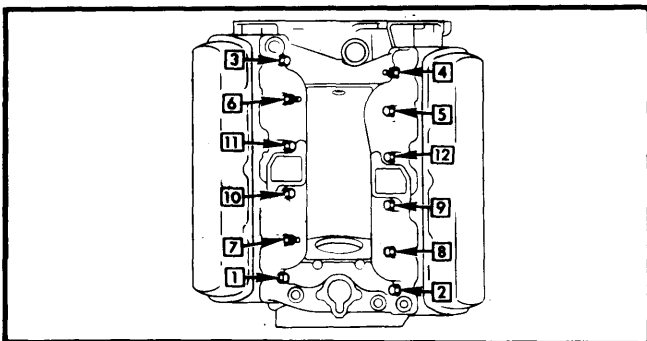

Fig. 1 Intake Manifold Tightening Sequence
2) Dip manifold bolts in oil and install. Tighten bolts first to 15 ft. lbs., then tighten to specifications. See Fig. 1. Reconnect thermostat by-pass hose to water pump. Apply RTV sealer to cone shaped surface of drain tube and on chamfered hole of manifold. Apply suitable sealer to threads of drain tube clamp bolt and install drain tube.